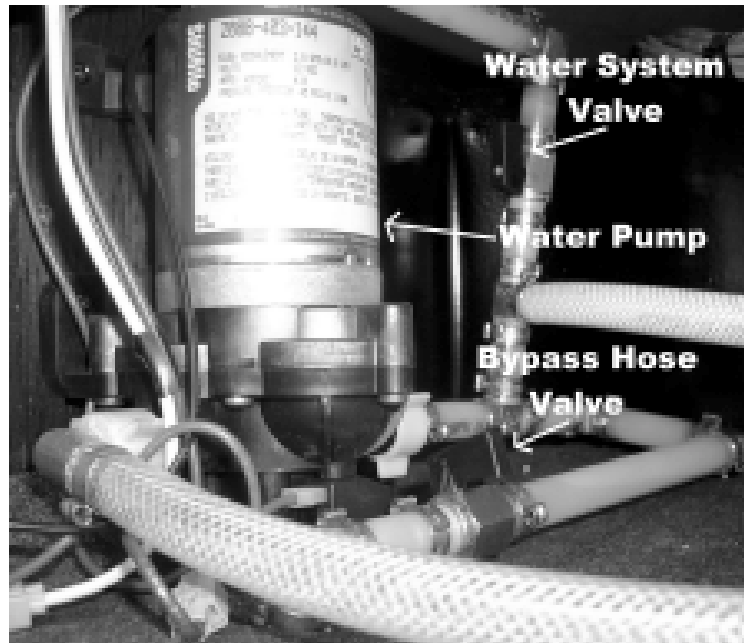

Fig. 4-7
6. Close the "Water System Valve" located behind the water pump. (Fig. 4-7)
7. Open the "Bypass Hose Valve." (Fig. 4-7)
8. Close the "Low Point Drain Valve." (Fig. 4-7)
12. Open the "Water System Valve." (Fig. 4-7)
13. Close the "Bypass Hose Valve." (Fig. 4-7)
6. Close “Bypass Hose Valve.” (Fig. 4-7)
7. Open “Water System Valve.” (Fig. 4-7)